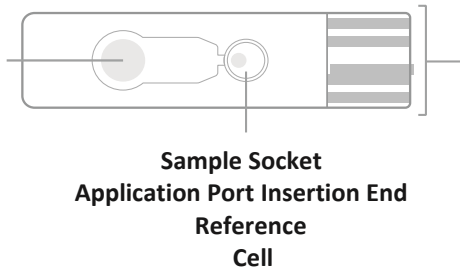

Figure 3. View of the sensor showing the application port for loading of the sample
- The semen sample used for sORP analysis can be either fresh or frozen, but must be at room temperature 5-30°C (41-86°F) when tested and must be tested within one (1) hour of liquefaction.
- Apply the sample to the Sample Application Port on the inserted MiOXSYS Sensor. Make sure that the entire port is covered (Figure 3).